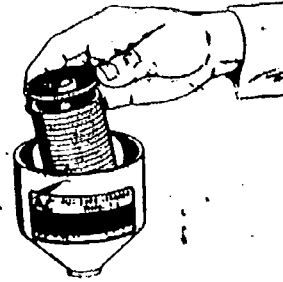

Fig 2-7. Fuel strainer.
- (1) **Fuel strainers.** Most fuel strainers (see fig 2-7) have a removable element which should be cleaned at regular intervals. This element consists of either close-fitting disks or some other materials. The element should be handled carefully so as not to damage it. The strainer should be drained and the element removed and washed carefully in CLEAN solvent or fuel oil. For specific directions for the removal and cleaning of the strainer element, consult the manufacturer's manual or TM for your piece of equipment.